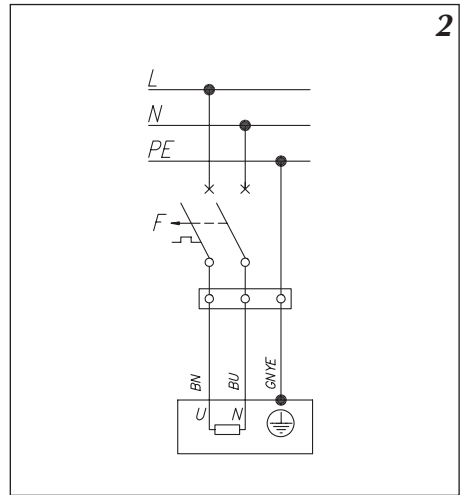

Fig.2 Electric connection
7. Connect the heater to a power source (through the installation cable box according to Fig.2).